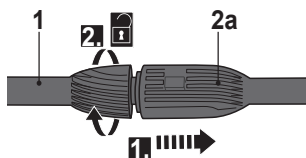

Fig. 6
- > Press the pressure lance (1) onto the lance connection port (2a) (Fig. 6, step 1) and turn it anti-clockwise to remove it (Fig. 6, step 2).